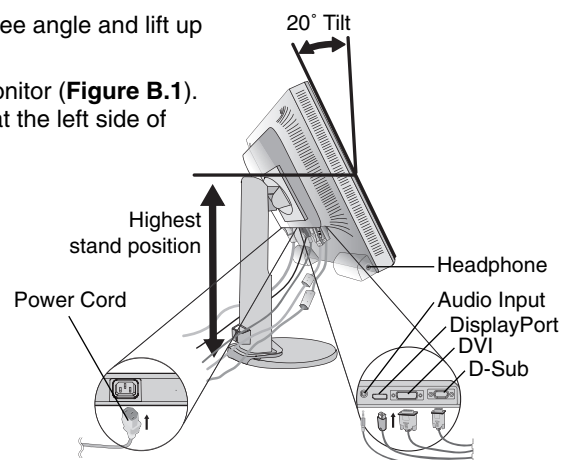

Figure B.1
4. Connect all cables to the appropriate connector on the back of the monitor (**Figure B.1**). Connect the Headphone (not included) to the appropriate connector at the left side of the monitor (**Figure B.1**).